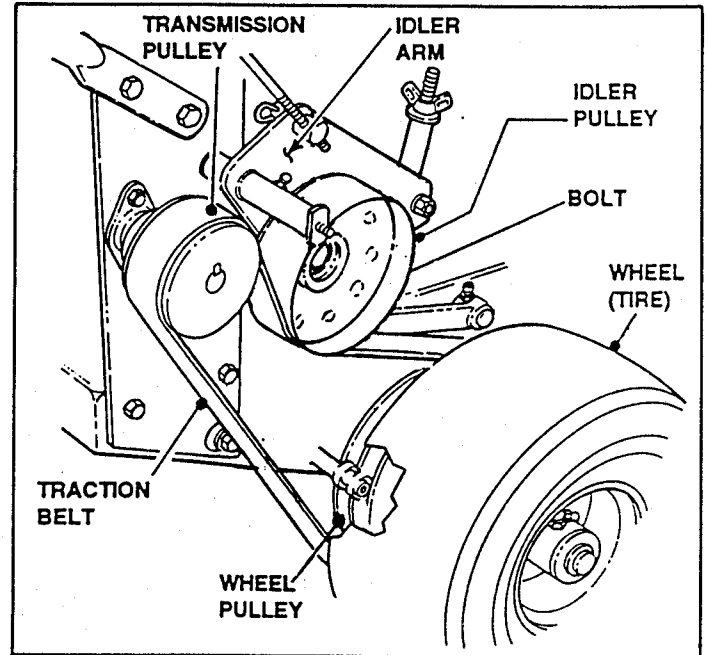

FIGURE 48
1. **STOP ENGINE!** Remove two wing-nuts retaining fender. Remove fender. See Figure 48